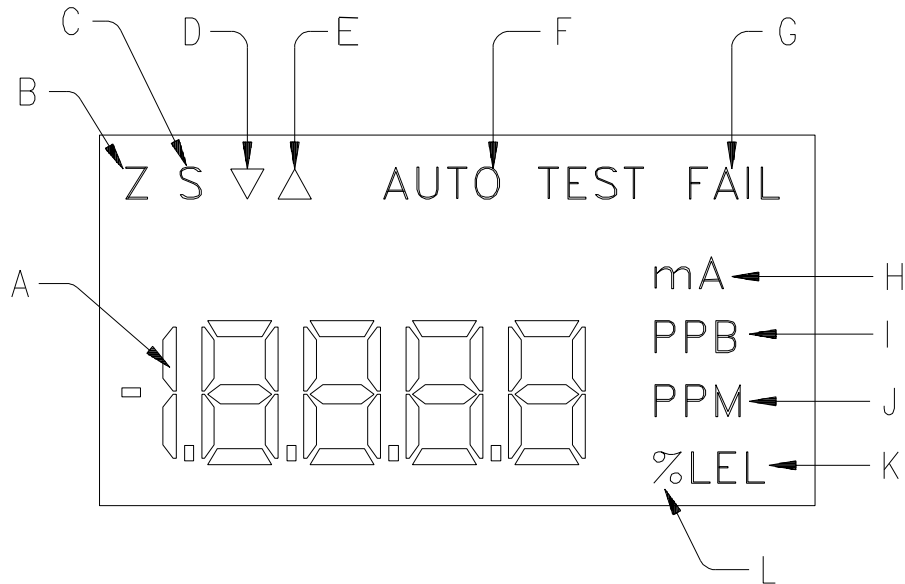

Figure 8 - Liquid Crystal Display
The display in the A12 transmitter provides the operator with a real time concentration display and a variety of prompts for selecting transmitter operating modes. Figure 8 shows the display, including all of the special indicators contained in it. Below that Figure is a description of each of the indicators.
- Step 3 Screw a calibration adapter onto the sensing module as shown in Figure 8. Connect your span gas source to the inlet fitting on the cal. adapter.